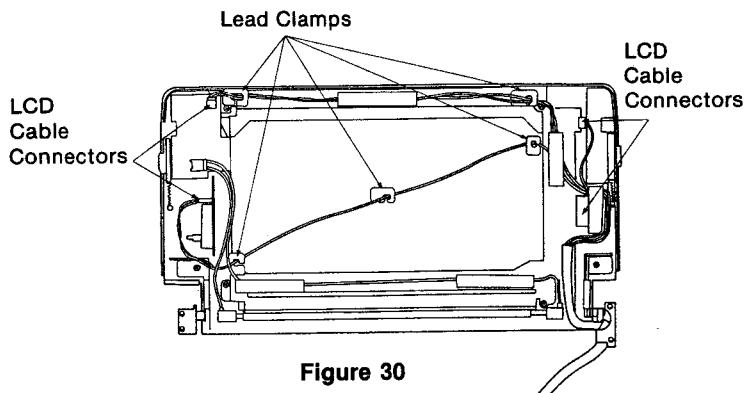

Figure 30
- (7) After removing the LCD rear case, release lead wires from the lead clamps as shown in Figure 30.
- (8) Disconnect LCD cable connectors as shown in Figure 30.